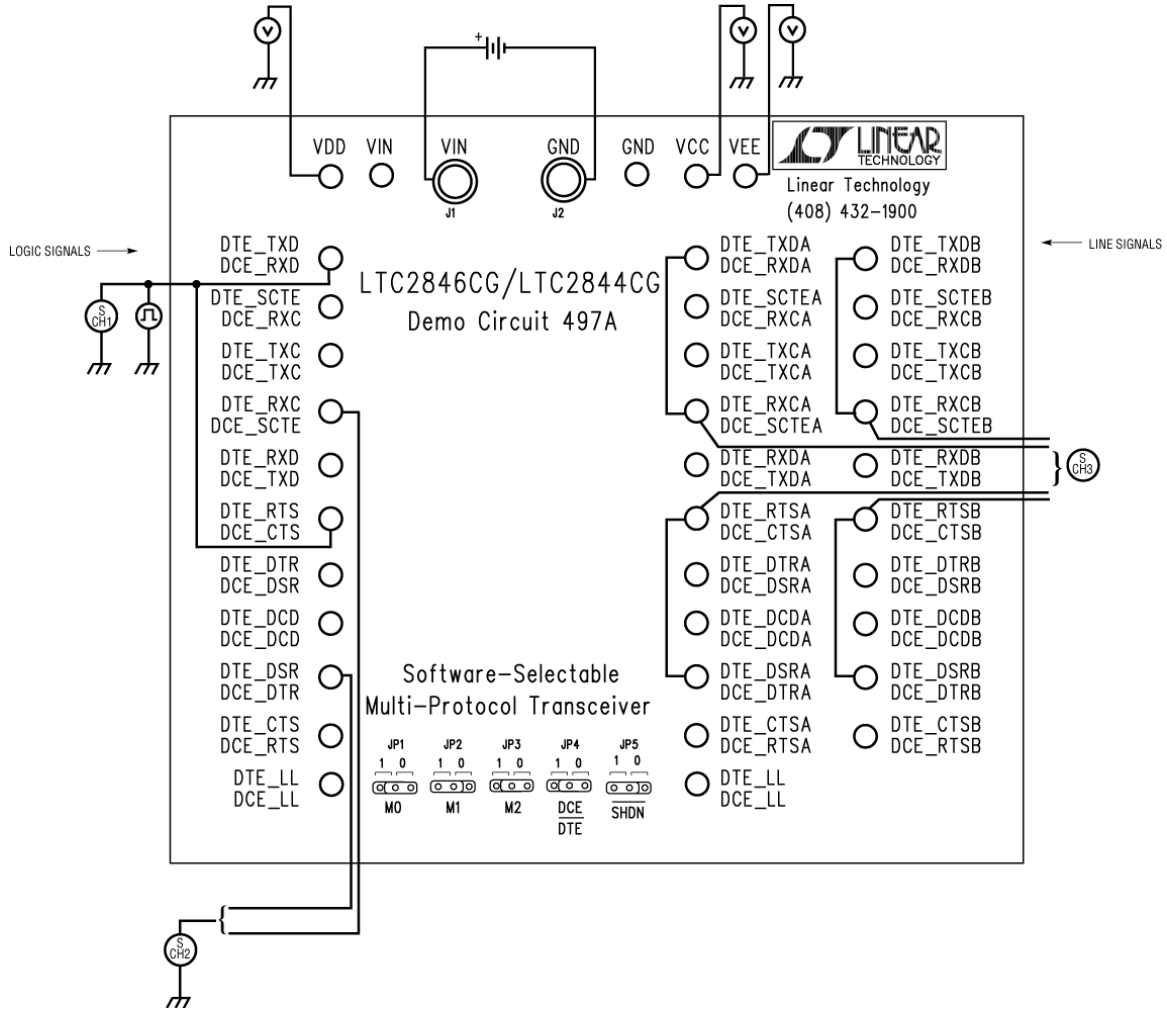

Figure 1. Proper Measurement Equipment Setup
1. Connect the input voltage power supply, meters, pulse generator and oscilloscope as shown in Figure 1.